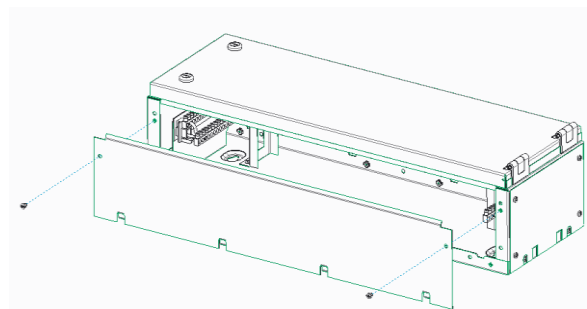

Fig. 3
- Re-use the bottom gland plate by attaching it to the bottom of the add-on enclosure. Refer to Fig. 3 for details.